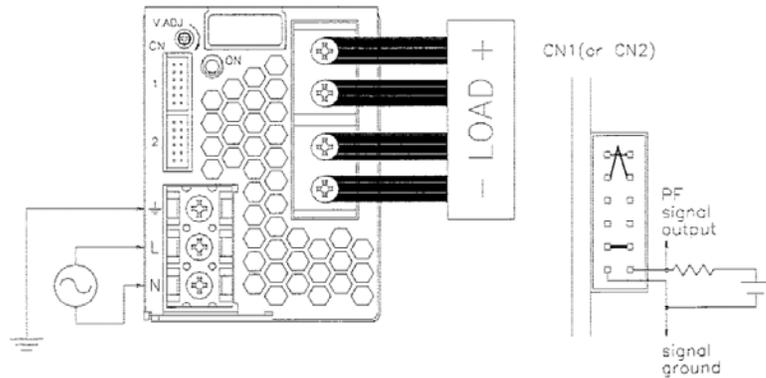

FIGURE 4. REMOTE ON-OFF CONTROL
### 3-3. Power Fail (PF) Signal (See Figure 4.)